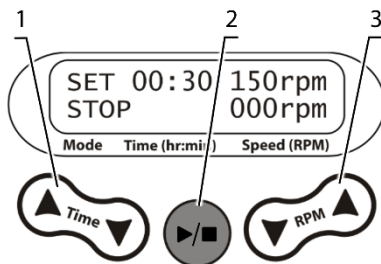

Figure 2. Control panel of PSU-10i
5.3. Set the required working time interval in hours and minutes (the increment is 1 min) using the ▼ and ▲ **Time** keys (fig. 2/1). Pressing the key for more than 2 s will increase the increment.
5.4. Set the required shaking speed (the increment is 10 rpm) using the ▼ and ▲ **RPM** keys (fig. 2/3). Pressing the key for more than 2 s will increase the increment. The set speed is displayed in the upper line of the display.
5.5. Press the ▶/■ key (fig. 2/2). The platform starts rotation, indication **RUN** appears on display and the timer in the lower line of the display starts counting the time interval.